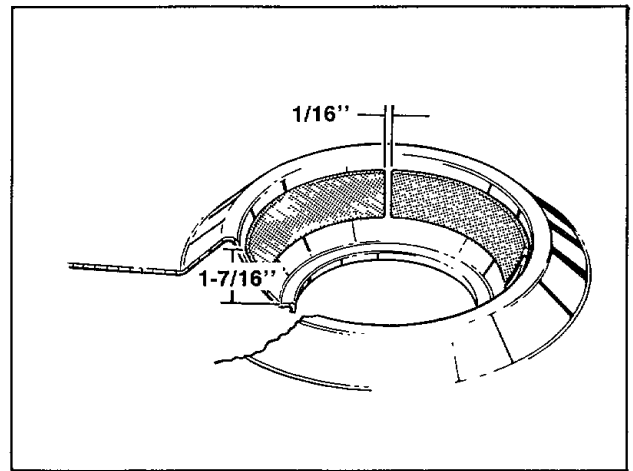

Figure 54
- Carefully align and apply the new snubber pads (with fluffed side up) to the base dome so they are equally spaced, *Figure 54*.
IMPORTANT: The top edge of the snubber pads should be 1-7/16 inches from the lower part of the dome with a distance of 1/16 inch between the pads, *Figure 54*.